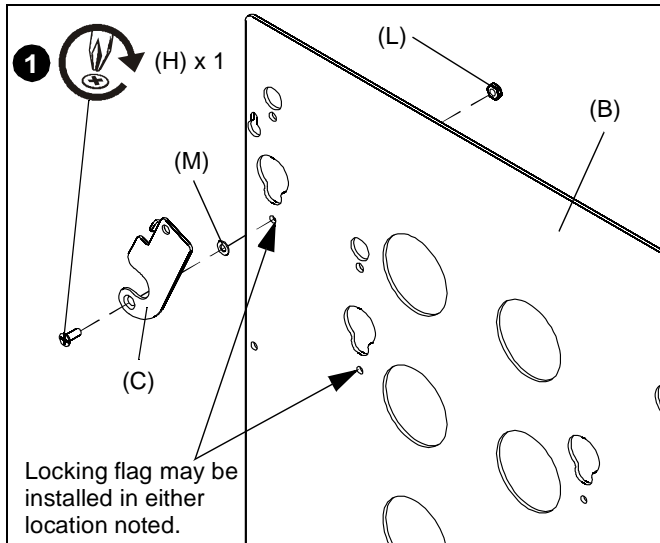

Figure 1
1. Attach locking flag (C) to faceplate (B) using one 10-24 x 1/2" Phillips undercut machine screw (H), one spacer (M), and one 10-24 Nylock lock nut (L). (See Figure 1)
NOTE: The locking flag may be installed in one of two locations, dependent upon the display mounting pattern. (See Figure 1)